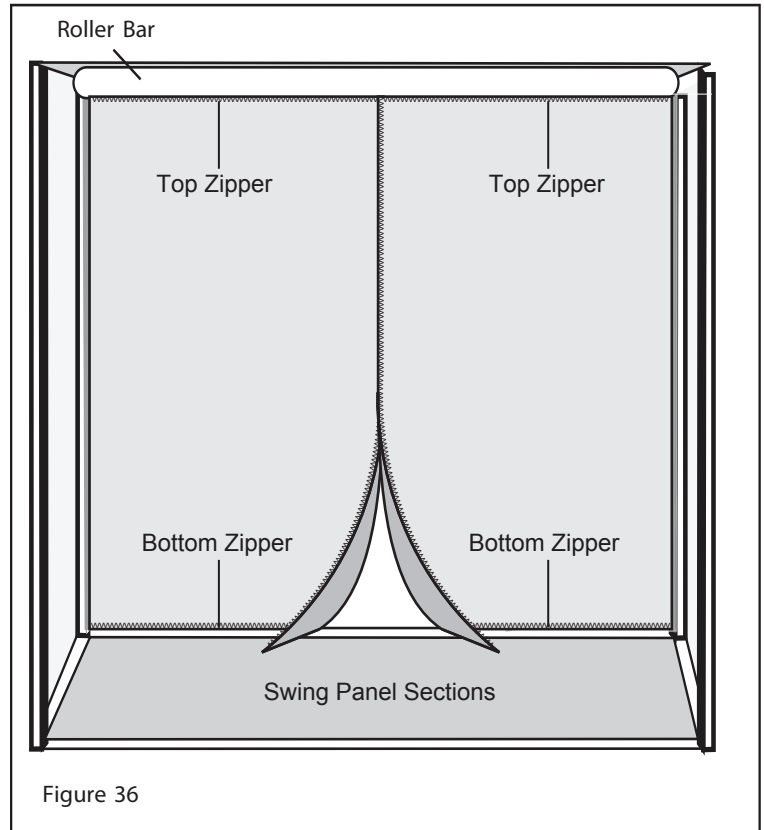

Figure 36
**STEP 53.** To open the Front Screen, unzip the center vertical zipper in the front panel and the smaller zippers on the top and bottom of each half of the front panel. You can now swing the Screen material in toward the side panels and secure with the supplied fasteners. See Figure 36.
**STEP 54.** To close the Front panel, connect and zip the top and bottom zippers on the panels and connect and zip the center vertical zipper. See Figure 36.